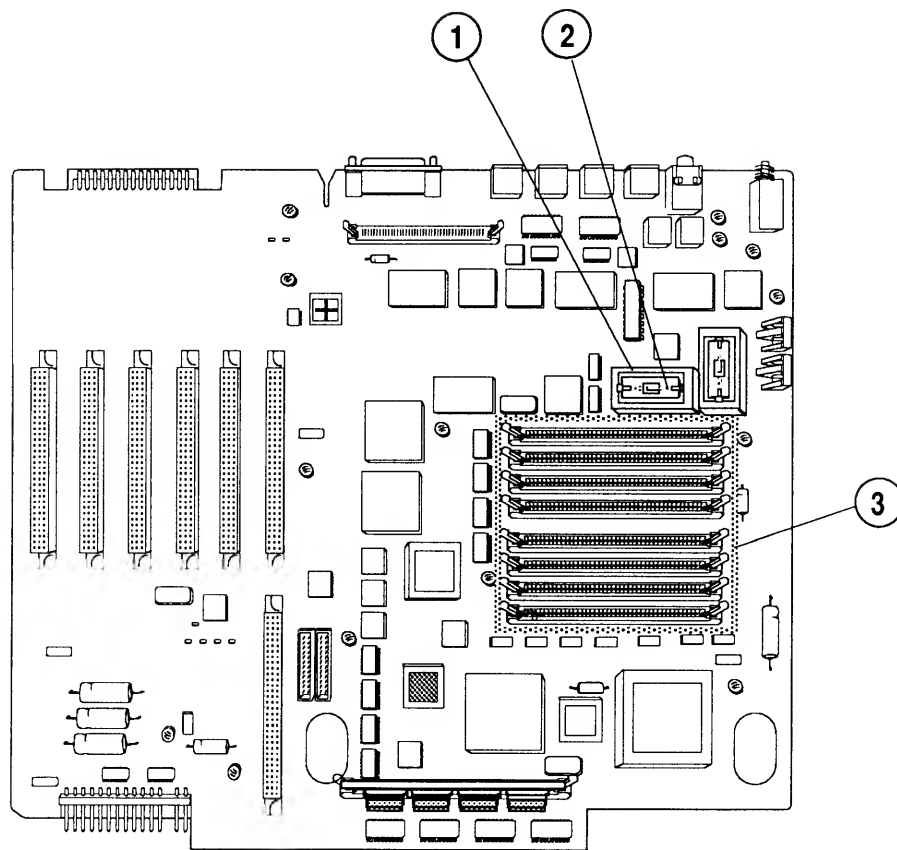

FIGURE 5
- IPL.11 Macintosh II/Ix/IIfx – Drives (Figure 5)
❑ **MACINTOSH IIx—LOGIC BOARD WITH PARITY (Figure 5)**
□ MACINTOSH II/IIfx/IIfx – DRIVES (Figure 5)